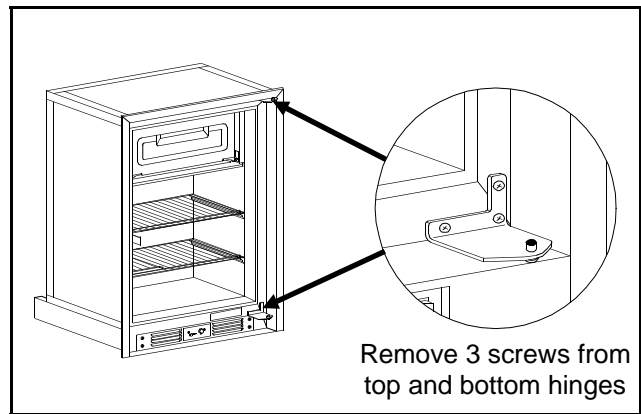

Figure 10
6. Using the #2 phillips screwdriver, remove the top hinge bracket by removing three screws securing the bracket in place. Save the screws for later reassembling (see Figure 10).
8. Using the #2 phillips screwdriver, remove the bottom hinge bracket by taking out the three screws holding the bracket in place. Save screws for later reassembling (see Figure 10).